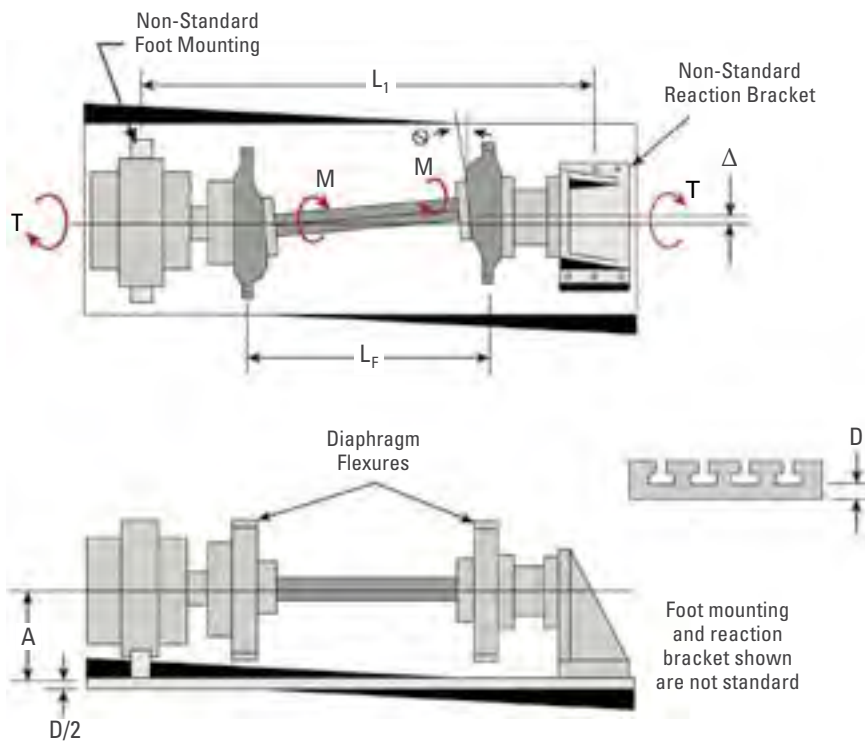

Figure 5. Forces Resulting from Base Plate Twisting (*Diaphragm Flexures*)
**Figure 5** shows an example of a test setup in which diaphragm flexures are mounted at both ends of the test specimen. These would be required on test setups where both the rotary actuator and the reaction bracket are rigidly mounted to the reaction base. Parameters not previously defined in Cases A and B are defined below.